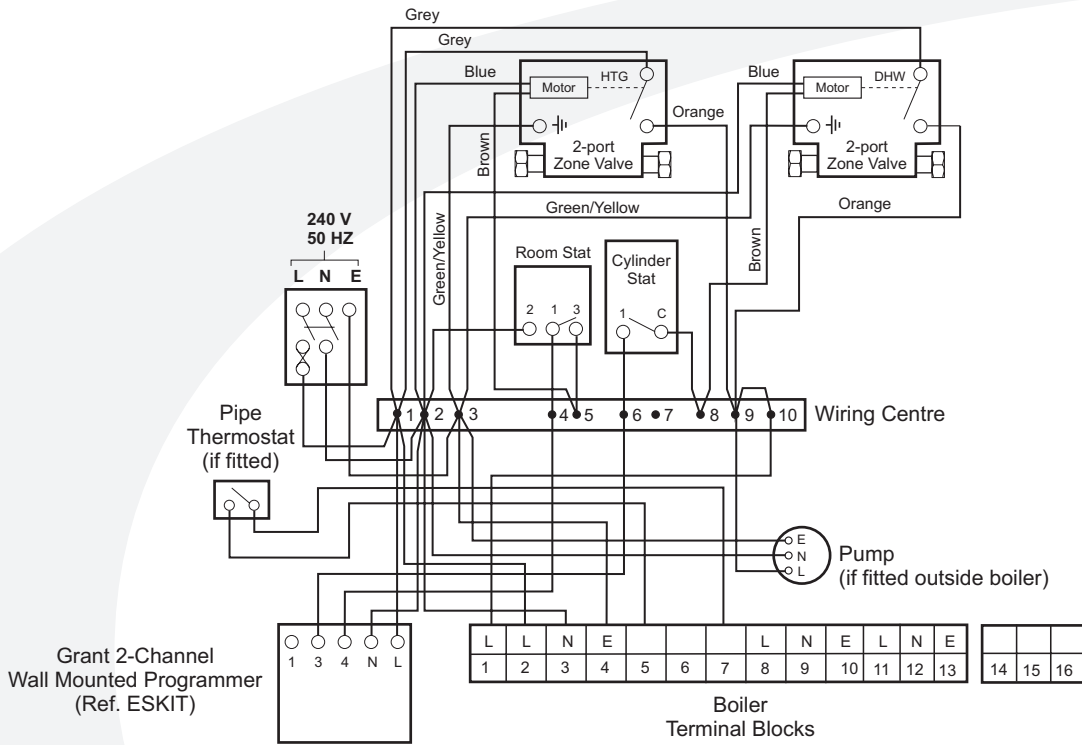

Figure 8-1: Grant 2 channel wall mounted programmer (Ref. ESKIT) - CH and HW controlled by two 2-port zone valves
Refer to Figures 8-1 to 8-4 for typical control system wiring diagrams.
It is recommend that the boiler should be connected to a switched mains power supply from a programmer or control system. If a Grant remote programmer is used, a permanent 240 V mains supply (fused at 5 Amp) must be taken to the boiler. A three core cable is required to connect the boiler terminal block to the live supply. Refer to Figures 8-1 to 8-4 for typical control system wiring diagrams.
3. Refer to Figures 8-1 to 8-4 for a typical control system wiring diagrams.